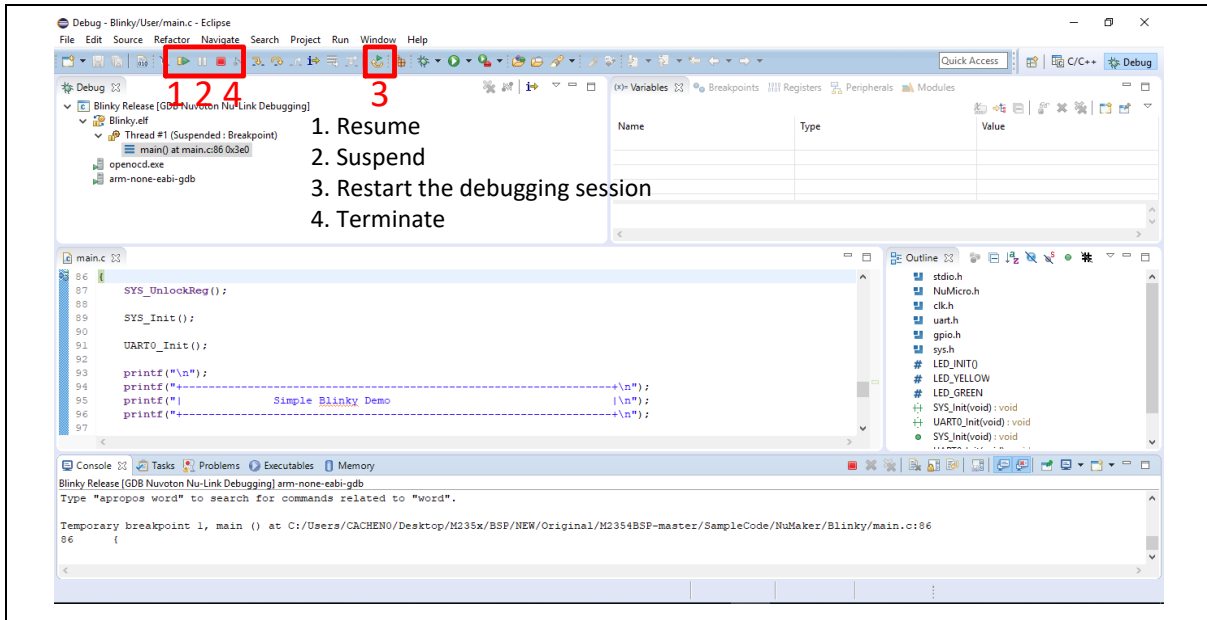
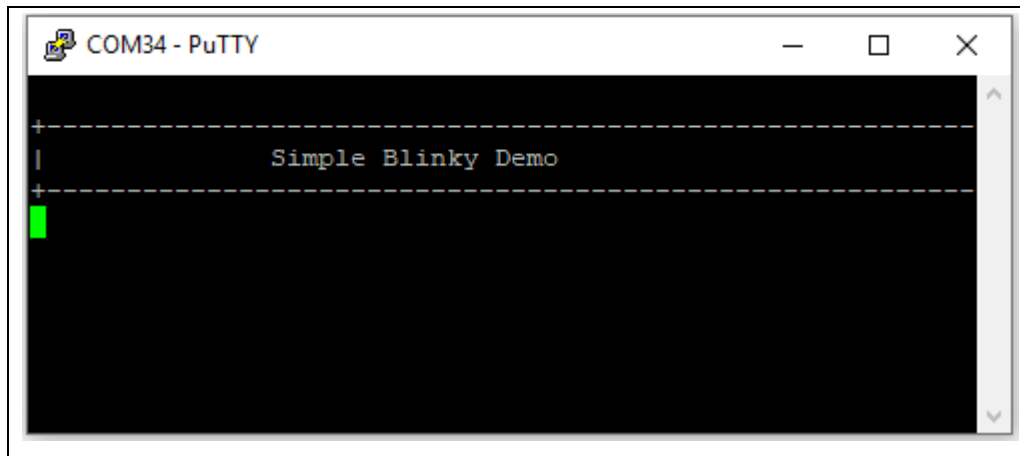

Figure 5-26 NuEclipse Debug Mode
Figure 5-27 Debug Message on Serial Port Terminal Windows
- Figure 5-26 shows the debug mode under NuEclipse. Click “Resume” and the debug message will be printed out as shown in Figure 5-27. User can debug the project under debug mode by checking source code, assembly language, peripherals’ registers, and setting breakpoint, step run, value monitor, etc. For more information about how to use NuEclipse, please refer to the NuEclipse User Manual.